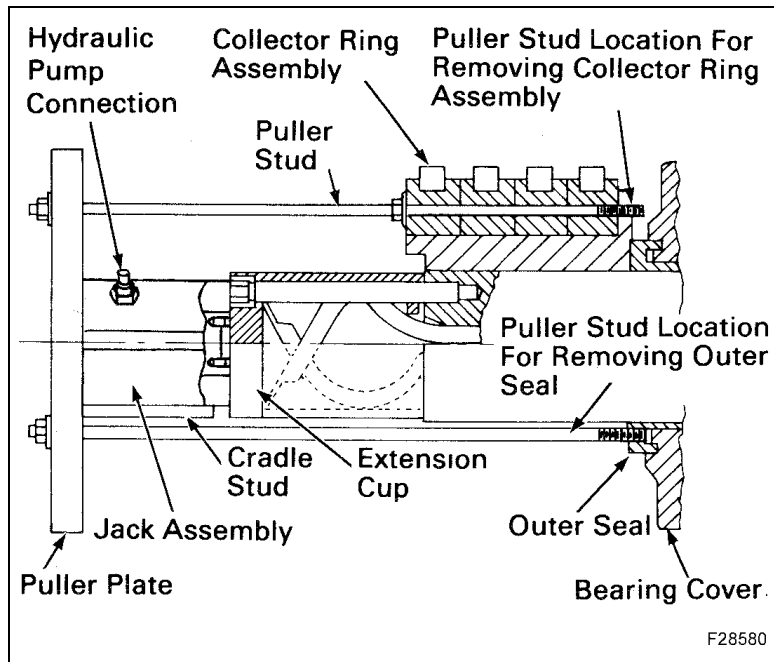

Figure 8 Collector Ring and Outer Bearing Seal Removal
6. Remove four 3/8"-16 bolts securing the collector rings to the collector ring hub. The bolts are located on the collector ring face between the lead connection terminals, 3. Place extension cup around field leads and bolt cup to shaft as shown in Figure 8.
7. Install puller plate and puller studs to remove collector ring assembly, as shown in Figure 8. Place jack assembly between the extension cup and the puller plate, supported by cradle studs of the puller plate. Connect hydraulic pump to jack assembly. Ensure puller is pulling equally on all studs to prevent damage to collector ring. Apply hydraulic pressure to jack assembly to remove collector ring assembly.
9. Install puller plate and puller studs to remove outer seal, as shown in Figure 8. Place jack assembly between extension cup and puller plate, supported by cradle studs of the puller plate.